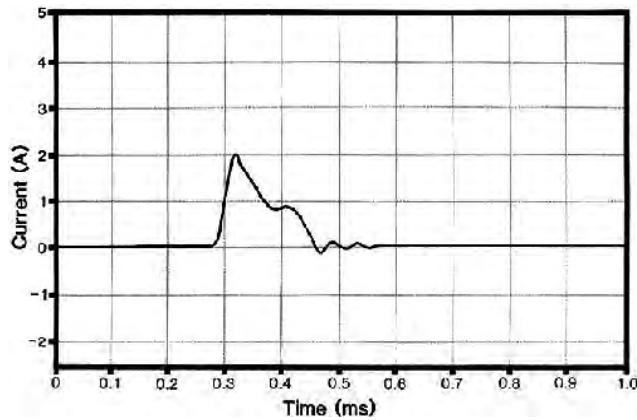

FIGURE 49. Dry Condition Current Output.
**Shock Intensity:** Current output for dry and wet conditions while hooked to the High terminal are shown in FIGURES 49 and 50.